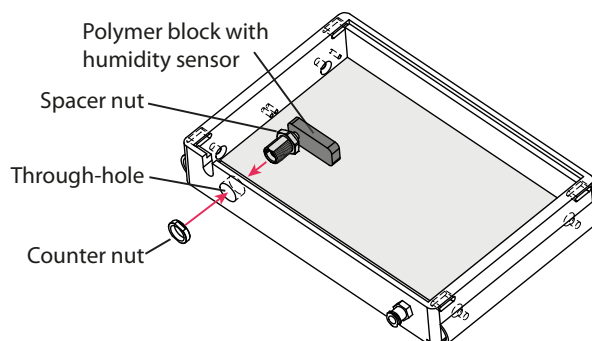

Figure 10: Installation of the separate humidity sensor to the side wall of the Heated Lid.
To ensure accurate humidity measurements, the separate humidity sensor needs to be mounted securely in the plastic through-hole at the side of the Heated Lid. To do this, please see Figure 10 and follow the steps below:
2. Place the threaded part of the sensor through the opening in the Heated Lid's wall, so that the sensor is inside the chamber (Figure 10). The spacer nut fits into the cavity of the wall.